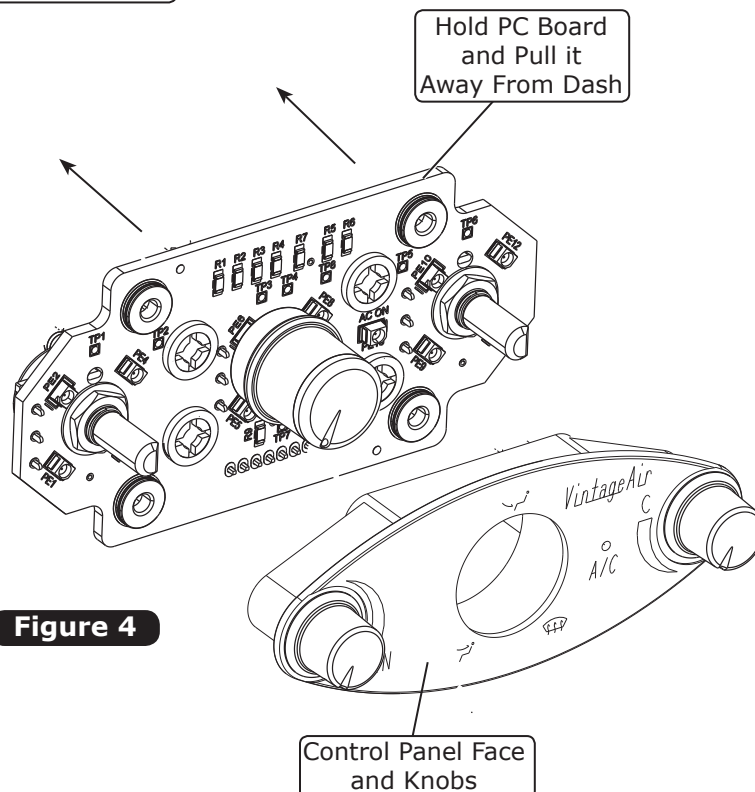

Figure 4
4. Hold the PC board assembly and pull it away from the dash until the board comes loose from the control panel face (See Figure 4, below). **NOTE: The control panel knobs will be loose in the control panel face.**